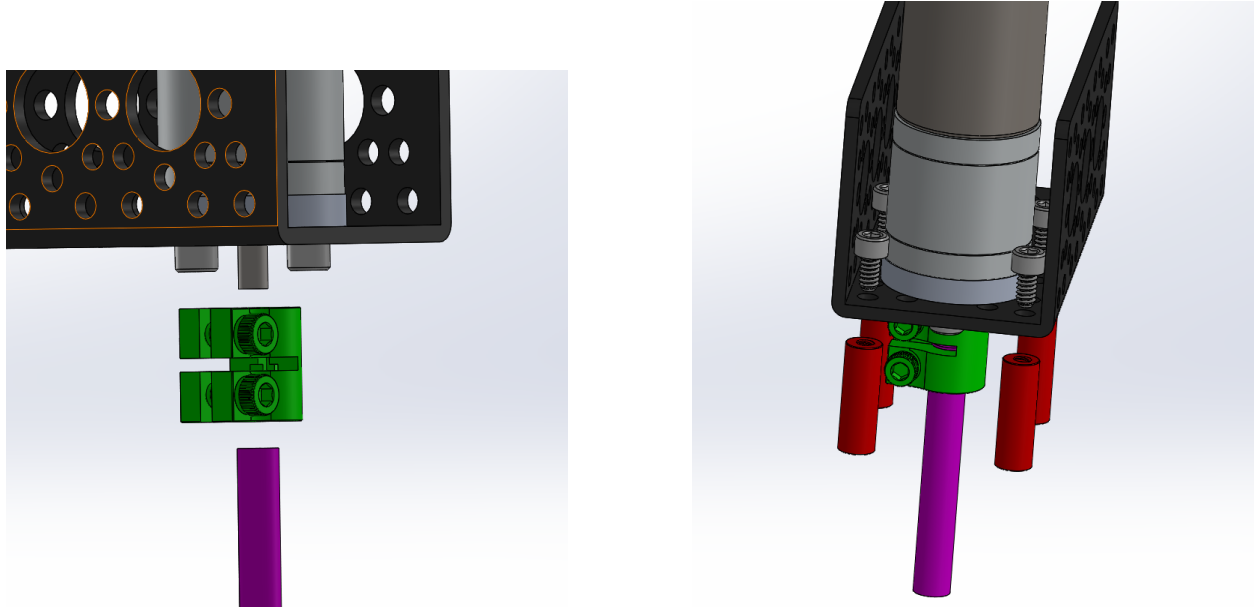

Figure 2: Corner Steering Step 2
2. **Shaft Coupler/Standoffs Attachment:** Attach the motor shaft to the 0.25 inch D-shaft **S15** using the shaft coupler **S23**. Also take the 0.75inch long standoffs **T5** and attach them to the bottom of the channel centered around the motor using screws **B1** as shown in Figure 2.